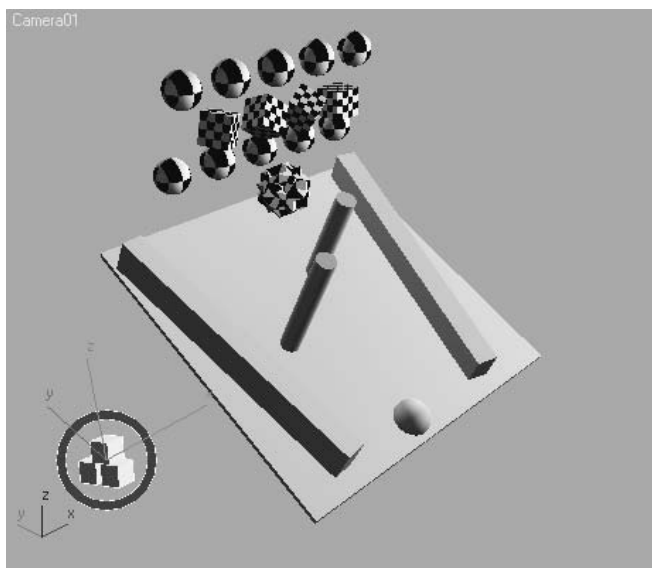

Figure 12.43
4. In the Command panel, click the Add button at the bottom of the RB Collection Properties rollout (Figure 12.43).